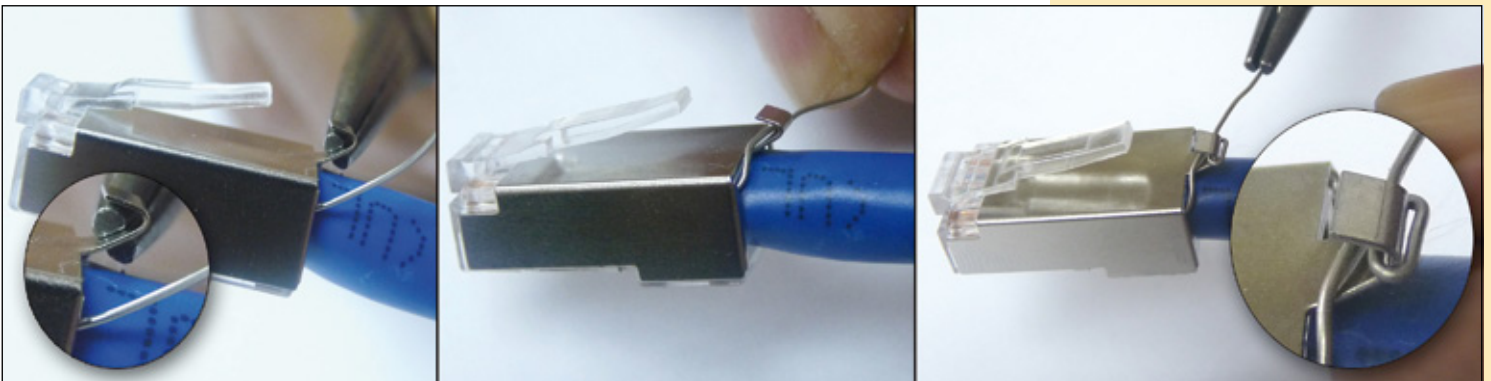

Figure 22
- 17 Proceed to twist the grounding tab slightly (about 30° over the plane of the plug) and to wrap 1 ½ turns of the drain wire on it as shown in the images of Figure 22.